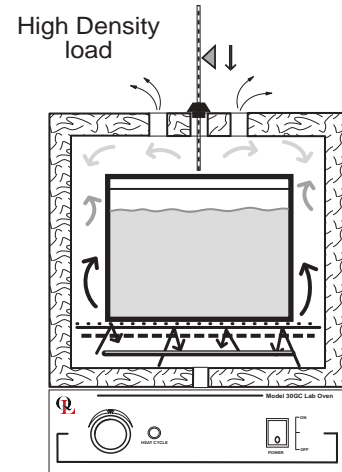

FIG. 6
- ▶ Avoid extremely large (in quantity or size), or high-density loads (FIG. 6). This will show by non-uniform processing and long or impossible "heat-through" times. To help determine a large load's suitability, use the set-point recovery time (the time it takes for the temperature to recover to the original set temperature once load is placed), as a guide.